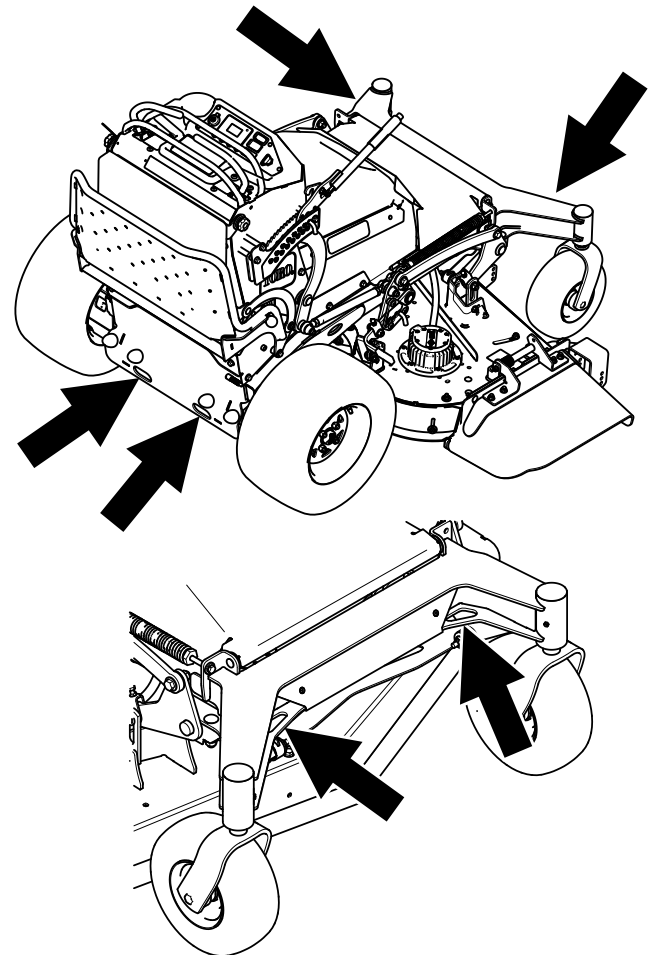

Figure 40
7. Tie down the machine near the front caster wheels, or front frame holes, and the rear bumper holes with straps, chains, cable, or ropes (Figure 40). Refer to local regulations for tie-down requirements.